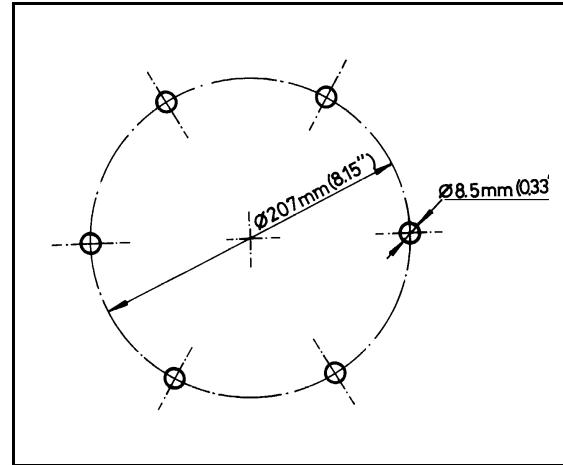

Figure 4-2: Robot Base Plate Layout
- Fasten the base of the robot arm to the work surface with at least 3 bolts 120° apart, as shown in Figure 4-2.